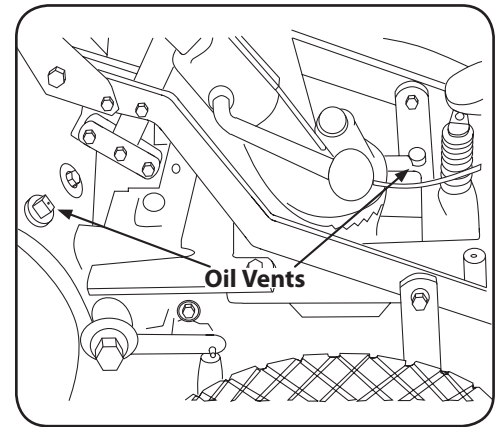

Figure 5-5
- If tilling during very hot weather, the gear oil may heat up and expand inside the transmissions. To allow for this oil expansion, both the power unit transmission and the tine attachment transmissions have oil relief vents. See Figure 5-5.